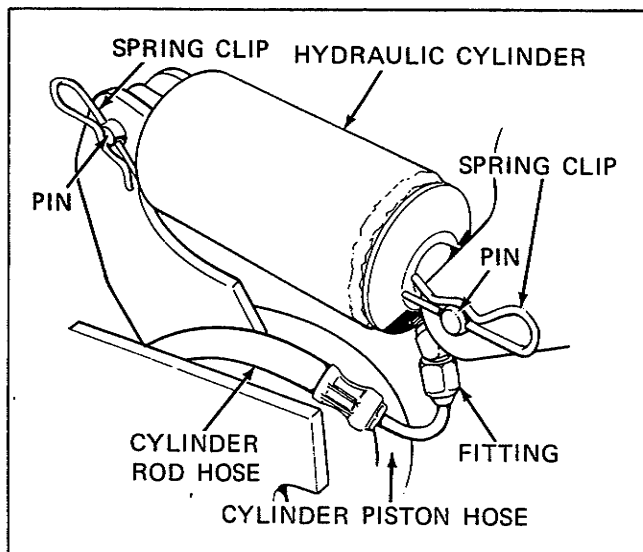

Figure 68. Hydraulic Cylinder
**Hydraulic Cylinder Removal (Figure 68)**
**Hydraulic Cylinder Installation (Figure 68)**